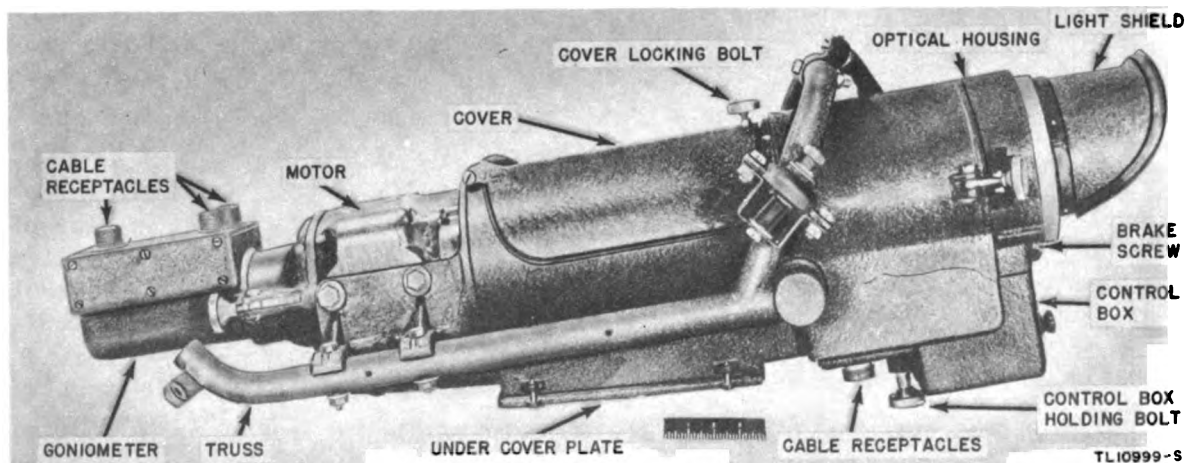

Figure 13. Bearing Indicator ID-121/CRD-3.
**f. Bearing Indicator ID-121/CRD-3.** The bearing indicator is an electromechanical unit for producing instantaneous visual azimuth and sense patterns characteristic of the antenna and goniometer outputs. Goniometer CFT-47372 is mounted at the rear of the indicator and is driven by the indicator motor. A photograph of the two units is shown in figure 13 and circuit diagrams in figures 81 and 161. The principal housing consists of a tubular type heavy aluminum casting supported on a steel truss assembly attached to the equipment mounting table. Two shock mounts support the indicator in its normal operating position. By removing the shock-mount supporting nuts, the indicator may be lowered on a chain for minor servicing. The indicator motor is mounted at the rear and hinged thumb-screws clamp the goniometer in back of the motor. A hinged cover over the rotating assembly permits access to the brushes and slip rings.
(1) The control box is of the plug-in type and mounts under the front end of the cathode-ray tube. Receptacles J501 and J502, for connection to the rectifier power unit, are at the rear of the control box. The light shield and azimuth scale assembly may be swung aside for removing the cathode-ray tube.
(2) The motor is a 1/8 horsepower, single-phase, capacity start, induction run motor with a normal running speed of 1,140 revolutions per minute (rpm). A switch cuts out the capacity when the motor has reached its operating speed. At 110 volts the motor draws 3.2 amperes. It is designed for operation from a 110- to 120-volt, 55- to 65-cycle, single-phase alternating current.